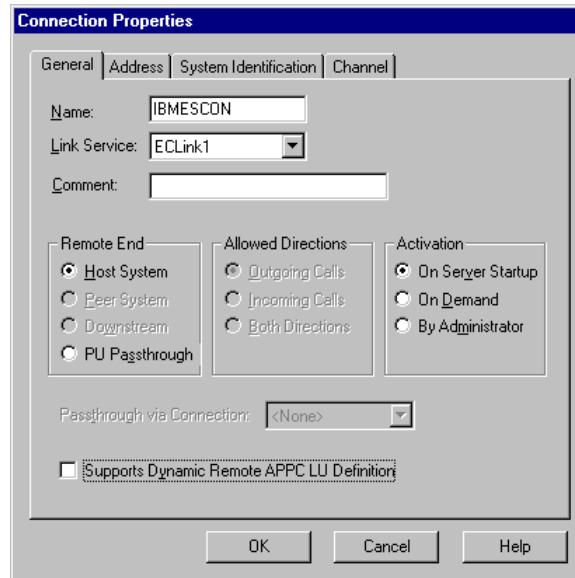

Figure 8-25. Connection Properties
3. The **Connection Properties** screen (Figure 8-25) will appear. You may change the Connection Name and Comment and set the Activation option. Select a Channel Link Service; connecting this connection to the ESCON adapter. Then click the **Address** tab.